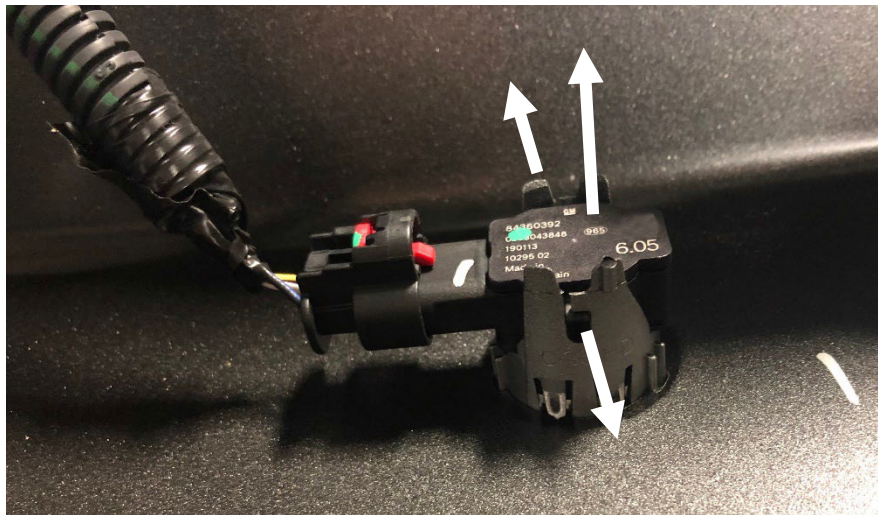

Figure 18
17. Carefully remove the four sensors and sensor housings from the bumper by spreading the housing clips out and pushing the sensor out simultaneously. Make sure to mark the position of each housing for installing into the WARN bumper. (Figure 18)